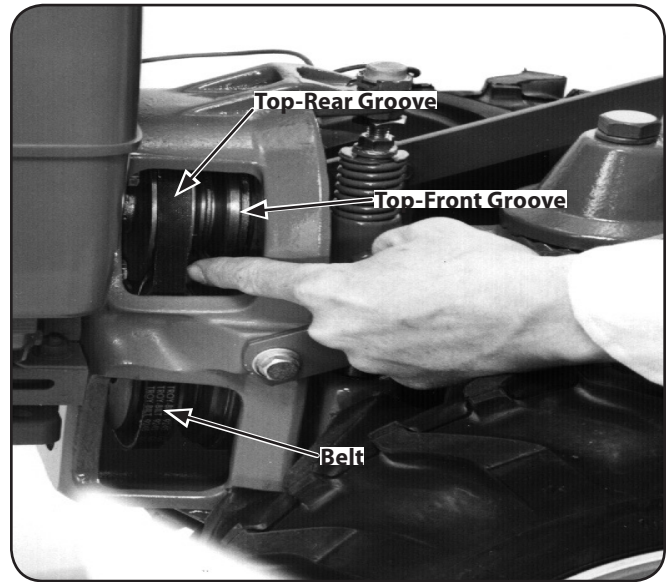

Figure 5-8
5. Working from the left side of the tiller, work the belt as much as possible onto the top-front engine pulley groove. See Figure 5-8.